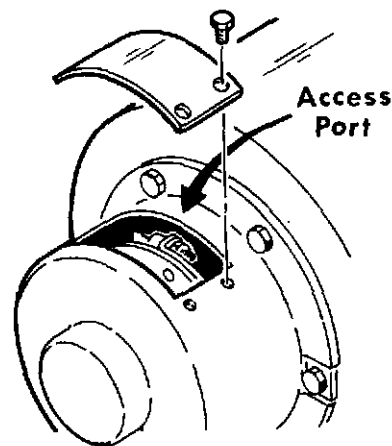
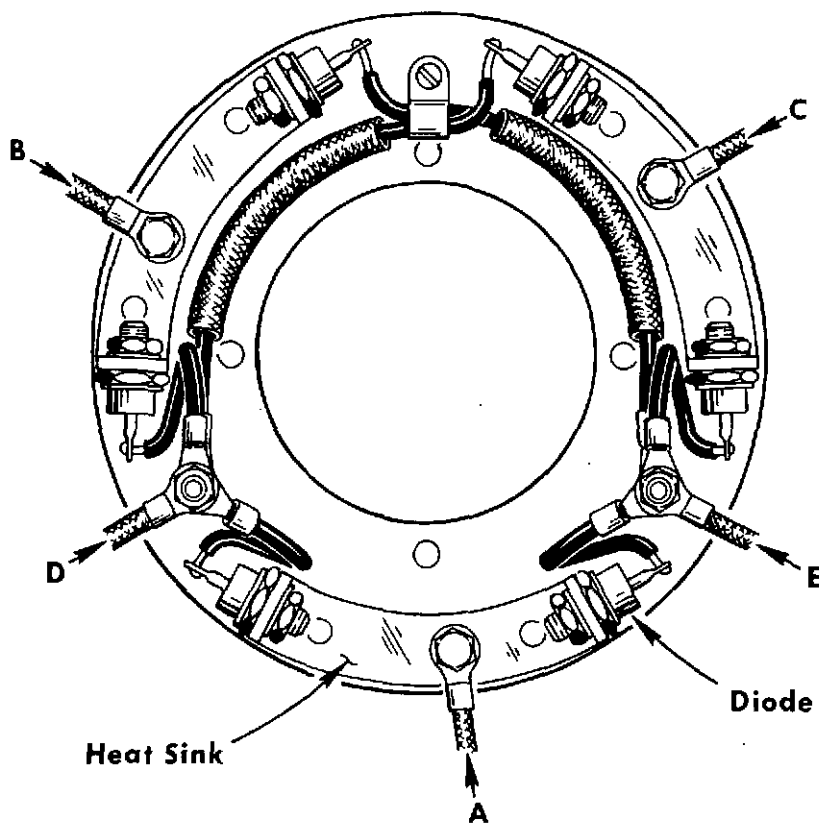

FIGURE 2
FIGURE 3
unit (See Fig. 2). Remove the 4 inspection port cover plate retaining cap screws and the cover plate. The assembly is now available for inspection, test, and/or service. See Figure 3 for the rotating rectifier assembly parts identification and location. The individual diodes are "stud type", retained by 1/4 - 28 hex head nuts and star washers. To test the individual diodes, disconnect the diode's lead wire terminal lug from the main rotor terminal post. Since each diode stud is secured to a heat sink; use the heat sink and the diode terminal or output lead terminal lug as the two testing points, and proceed with testing as in paragraph 2 above. If the diode tests good, reinstall the load lead terminal lug on the main rotor post. If the diode tests bad, replace the device following the procedures given in sub paragraph B below.
- D. **Rotating rectifier assembly removal procedure.** Remove the three exciter rotor leads, and the two main rotor leads (Fig. 3 Items a, b, c, and d) from the rectifier assembly. Remove the four cap screws holding the rectifier assembly to the rectifier hub.